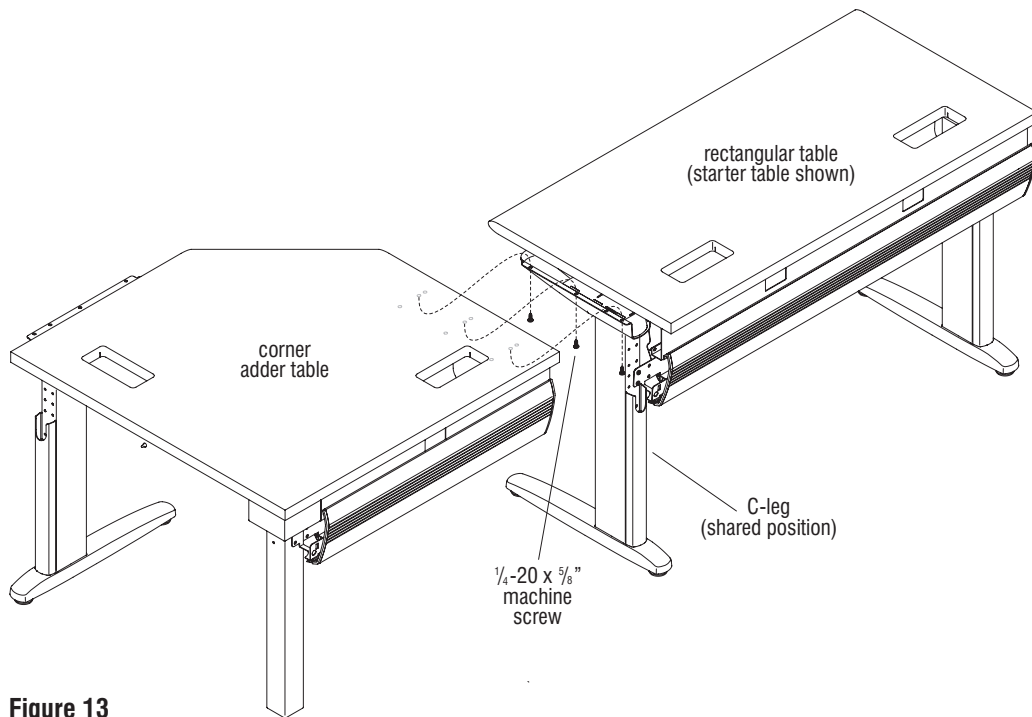

Figure 13
6. With the assistance of a second person, carefully turn the adder corner table, to be connected to the next table in your configuration, to the upright position. Rest the no-leg end of the worksurface onto the shared leg of the previous unit. Align the mounting holes on the leg with the adder worksurface holes and secure together using three $\frac{1}{4}$ -20 x $\frac{5}{8}$ " machine screws. For ease of installation, start all screws before tightening (Figure 13).